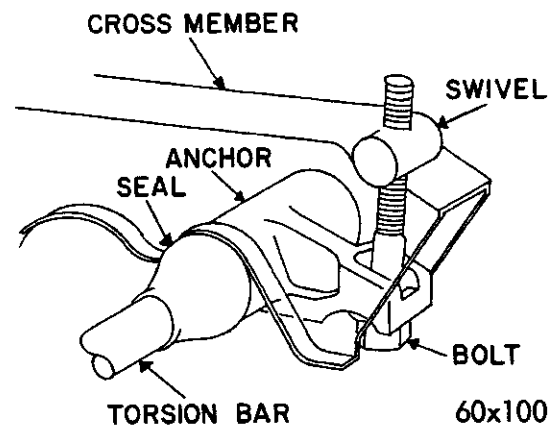

Fig. 3—Torsion Bar Adjustment Bolt
(6) Adjust, if necessary, by turning the torsion bar anchor bolt clockwise to increase the height and counter-clockwise to decrease the height (Fig. 3). If it is necessary to adjust the anchor bolts, measure the torque required to move the bolt clockwise. If it requires over 200 foot-pounds, replace the anchor adjusting bolt.
(7) After adjusting, jounce the vehicle and read both gauges even though only one side may have been adjusted.
(1) Place a jack under the center of the front cross-member and raise the vehicle off the floor, so the front suspension is in full rebound (under no load).
(2) Release the load from the torsion bar by backing off the anchor adjusting bolts (Fig. 3). Remove the bolt and swivel and discard.
(4) Apply a liberal coating of chassis lubricant around each end of the torsion bar. The rear end of the torsion bar should be coated equal to the depth of the anchor hub socket.
(5) Install the torsion bar (Fig. 3).
(6) Turn the torsion bar until the anchor end is positioned approximately 120 degrees (eight o'clock or four o'clock position) down from the frame.
(7) Engage the front end of the bar in the hex opening of the lower control arm. If the anchor end is not in the position just described when installing the torsion bar, it will be impossible to adjust the front suspension to the correct height.
(8) Before installing the lock ring, center the bar so that full contact is obtained at anchor and arm shaft. Install the lock ring, making sure it is seated in its groove.
(9) Pack the annular opening in the rear anchor completely full of multi-purpose lubricant. Position the lip of the seal in the groove in the anchor hub. Install the plastic seal into the rear end of the torsion bar anchor.
(10) Slide the adjusting bolt swivel in position on the frame. Hold in position while installing the new adjusting bolt and seat. Tighten the bolt into a new swivel until approximately 1 inch of threads are showing out of the swivel. This is an approximate setting and is to be used only as a starting point when adjusting for correct height. This setting is also necessary to place a load on the torsion bar before lowering the vehicle to the floor.
(11) Lower the vehicle to the floor, then measure and adjust the suspension as required.